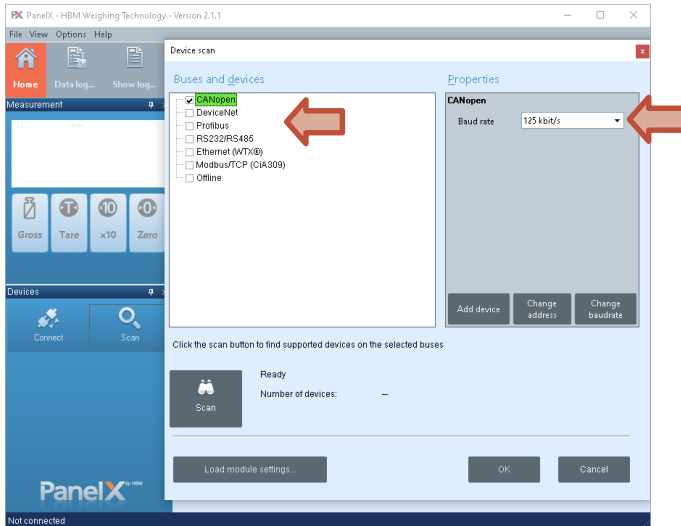

Fig. 7.2 Selecting the bus system and baud rate
- ▶ Select the interface you want to use to connect: **CANopen**, **DeviceNet** or **RS232/485** for the diagnostics bus (Fig. 7.2). If you are connecting the diagnostics bus via a USB-to-RS232 adapter, select the relevant virtual port for **RS232/485**.